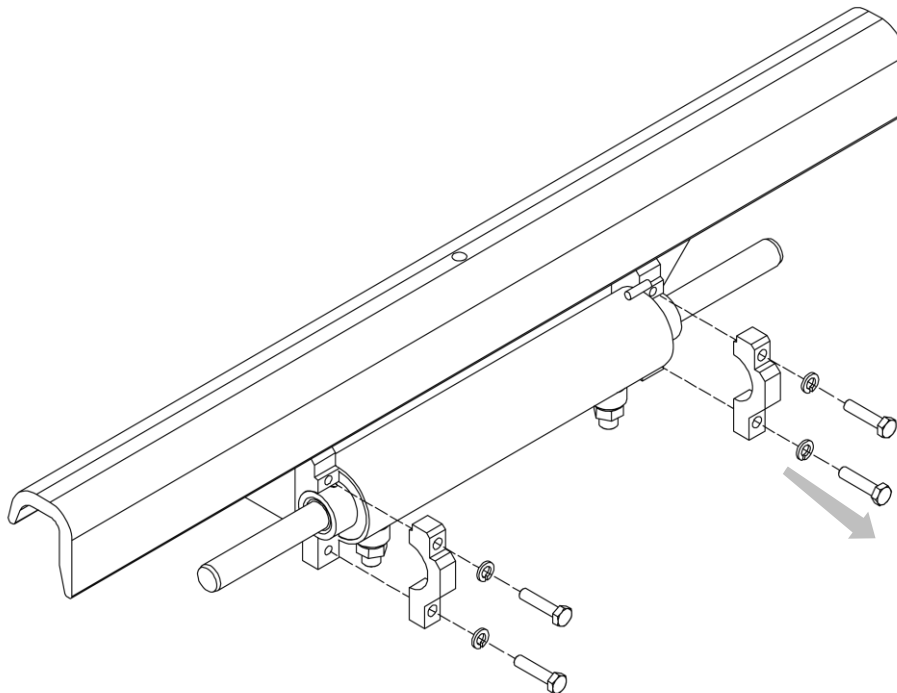

Figure 21
4. Use *Figure 21* as a guide.